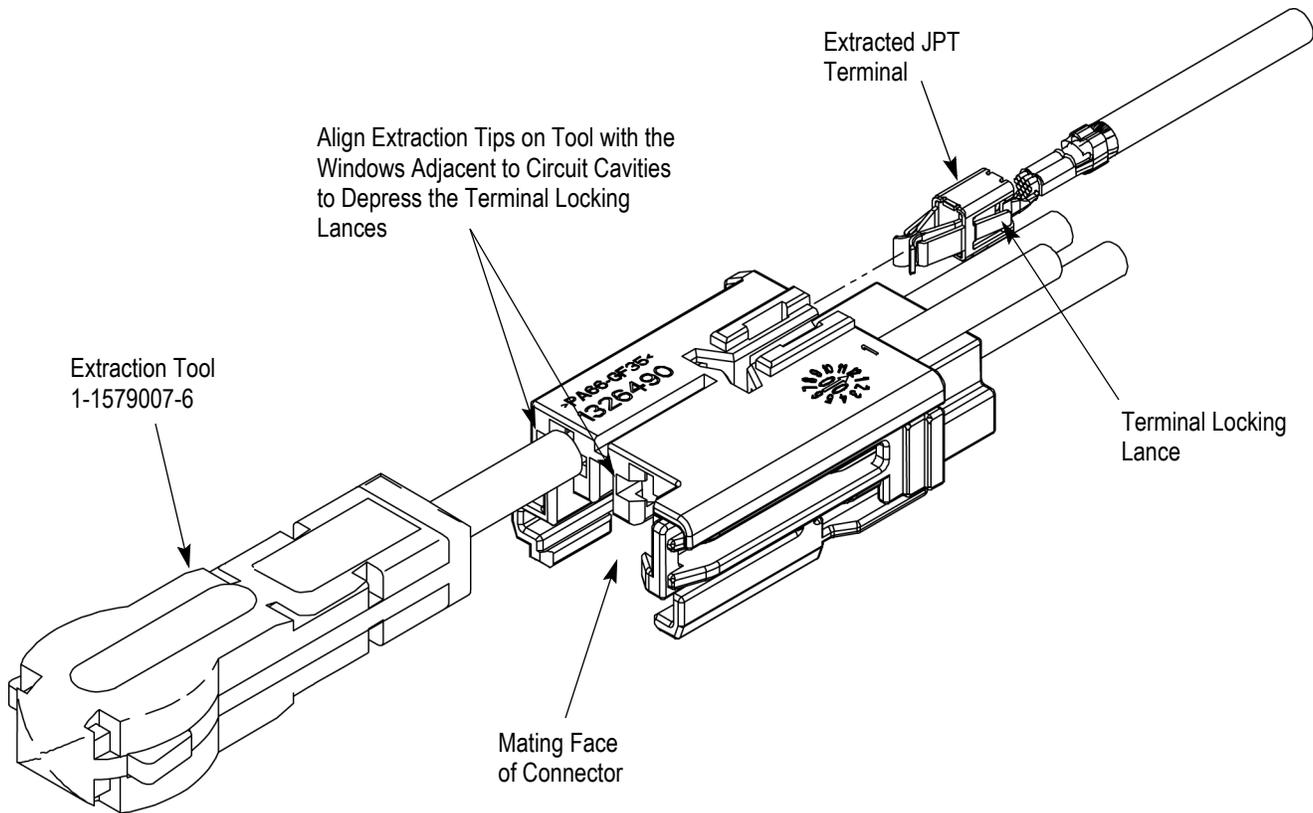

Figure 9
4. With the extraction tool fully inserted, pull the terminal out of the back of the housing. Refer to Figure 9.